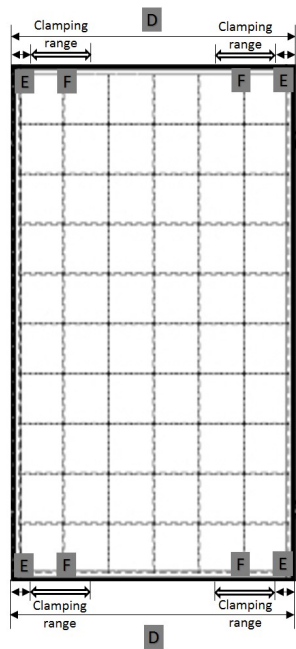

Figure 5: Short side clamping range
7. For mounting the supporting rails on the short side of the frame , slide bolts through the rail grooves next to the 4 clamps locations. The module may be clamped only in the permitted clamping range . For the exact locations refer to area F in Figure 5 and Table 3.